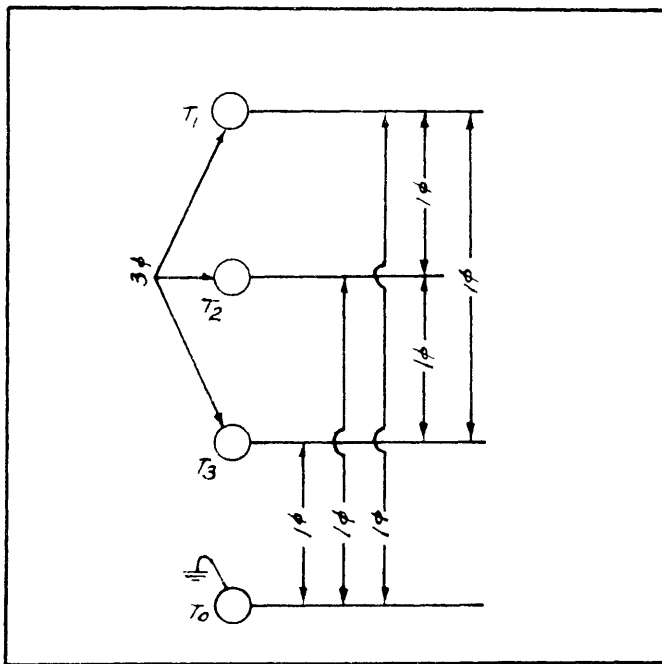

FIGURE 14. 3 PHASE, 4 WIRE WYE CONNECTION
**3 Phase, 4 Wire, Wye Connected Plant (Figure 14):** The 3 phase, 4 wire plant produces single phase current of one voltage and three phase current of a different voltage. The single phase voltage is the lower voltage as noted on the plant nameplate and the three phase voltage is the higher nameplate voltage.